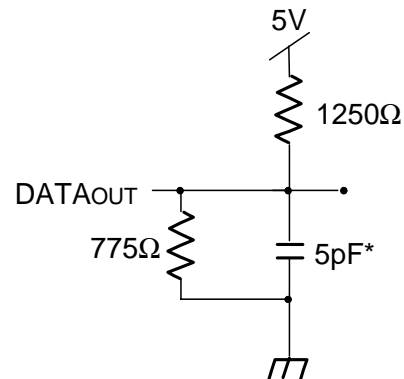

Figure 2. Output Test Load
1. Transition is measured 0mV from Low or High-Impedance Voltage Output Test Load (Figure 2).
1. Transition is measured 0mV from Low or High-impedance voltage with Output Test Load (Figure 2). This parameter is guaranteed by device characterization but is not production tested.